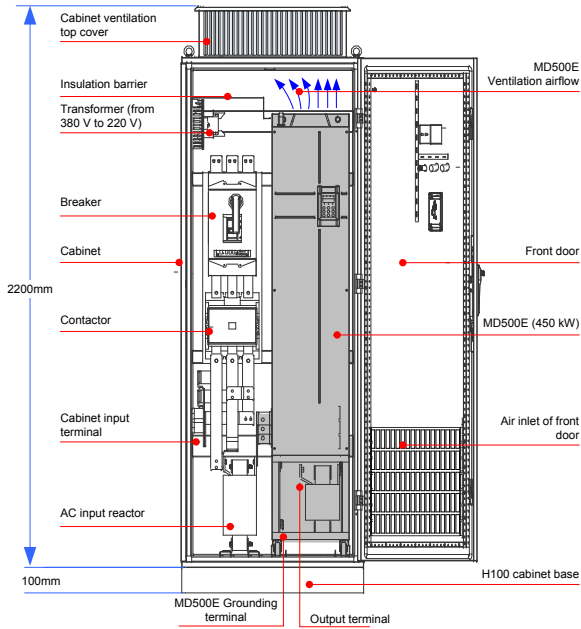

Figure 3-14 Recommended cabinet layout
- ◆ Refer to Figure 3-14 for cabinet layout before mounting the drive in cabinet. The cabinet dimension is 2200 x 800 x 600 mm. The height 2200 mm includes the 200 mm cabinet ventilation top cover but does not include the 100 mm cabinet base. Insulation barrier must be installed at the top of the cabinet to avoid circulation of ventilation airflow within the cabinet. In addition, ensure there are air inlet openings at the bottom of the cabinet.